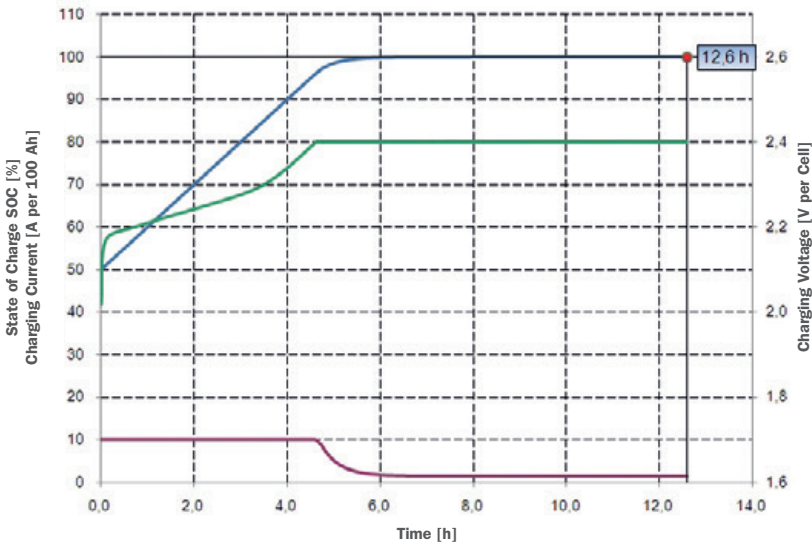
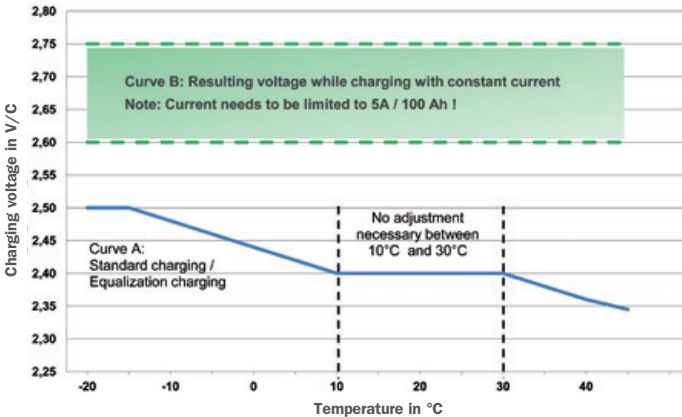

Fig. 7-1: Charging characteristic of OPzS solar.power cell at 50% DoD
Fig. 7-2: Charging voltage as a function of temperature in solar cycling operation
The chart below (refer to *figure 7-1*) demonstrates the OPzS solar.power recharge characteristic (IU-characteristic) after discharge with 50% DoD (Depth of Discharge).
Charging procedure shall be compliant to IU- or  $IU_{10}$ -characteristic (refer to example *fig. 7-1*). Recommended charging voltages for cyclical applications2 are depicted in *fig. 7-2*.
Used for regular recharge after every battery discharge. The charging procedure shall comply to IU-characteristic with 2.4 V/cell (refer to curve A in *fig. 7-2*). Note: Up to 2.4 V/C the charging current is theoretically not limited. However the recommended charging current is 5 A to 20 A3)/100 Ah nominal battery capacity (C10).
Charge with IU-characteristic as described above. Keep the charging current at 5 A/100 Ah nominal battery capacity (C10) as soon as the current has dropped to this value during constant U-phase. During Ia phase the charging voltage ranges between 2.6 to 2.75 V/C (refer to curve B in *fig. 7-2*). Ia phase should last either 2 or 4 hours (refer also to *chapter 7.5 Charging procedure for cyclic applications*).
If the battery is fully charged the charging voltage needs to be adjusted to normal float charge voltage for standby batteries as given in the HOPPECKE operating instructions (2.23 V/cell at temperature between 10 °C and 30 °C; refer to *fig. 7-1*).
- Max. 2.4 V/Cell up to 72 hours (refer to curve A in *fig. 7-2*). Note: Up to 2.4 V/C the charging current is theoretically not limited. However a restriction of max. charging current to 20 A/100 Ah nominal battery capacity (C10) is reasonable. In case of charging voltages above 2.4 V/C the charging current needs to be restricted to 5 A/100 Ah battery capacity (C10). Resulting voltage range is 2.6 to 2.75 V/C (refer to curve B in *fig. 7-2*).
Temperature dependent voltage adjustment as shown in fig. 7-2: